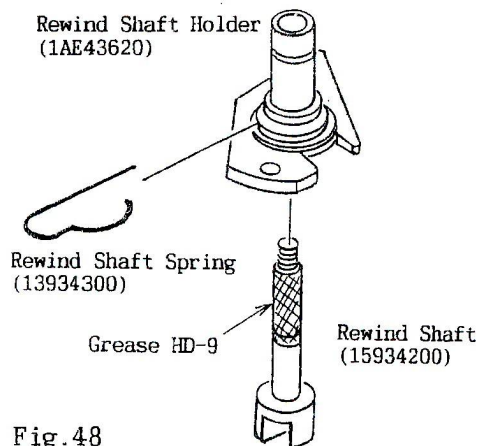

Fig.48
- 2) Pass the Rewind Shaft through the Rewind Shaft Holder (1AE43620) and install the Rewind Shaft Spring (13934300) in the direction shown in Fig.48.